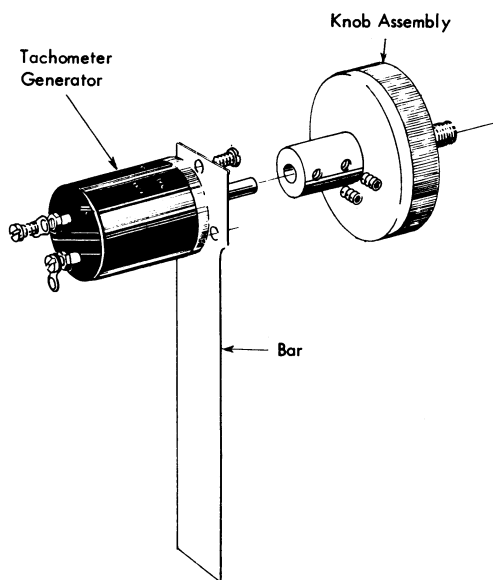

Figure 54. Tachometer Assembly
*Reel Drive Clutch Energizing Voltage:* A tachometer generator is needed to make the necessary magnetic clutch current adjustments. Figure 54 shows the tachometer assembly, which is the one used on the IBM 1403 Printer (IBM P/N 461117).